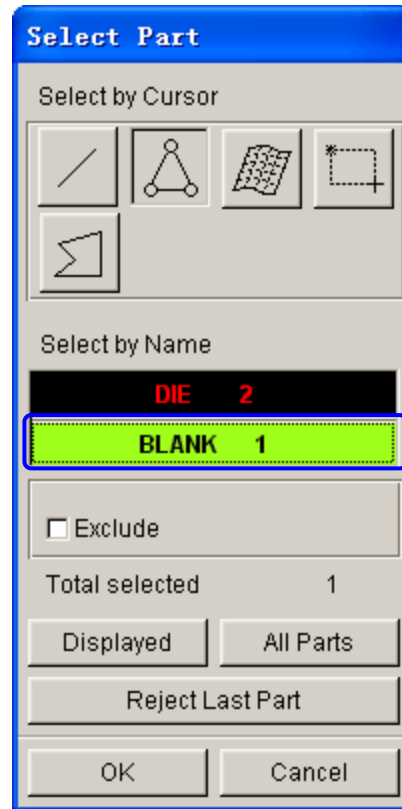

Figure 1.9 Select Part dialog box
- Click **Add Part...** button. Use your mouse cursor to select the **BLANK** part from the **SELECT PART** dialog box illustrated in Figure 1.9.